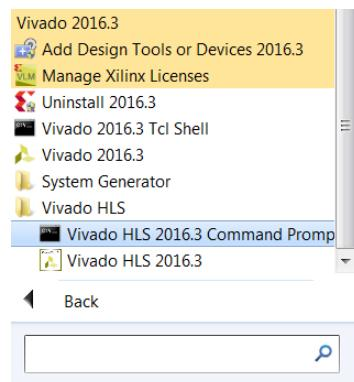

Figure 5-1: Vivado HLS Command Prompt
- a. On Windows use **Start > All Programs > Xilinx Design Tools > Vivado 2018.3 > Vivado HLS > Vivado HLS 2018.3 Command Prompt** (Figure 5-1).